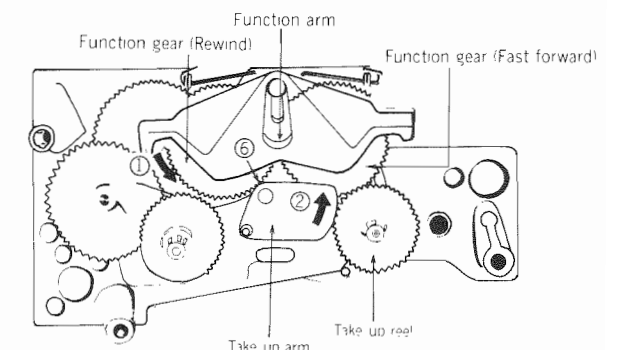
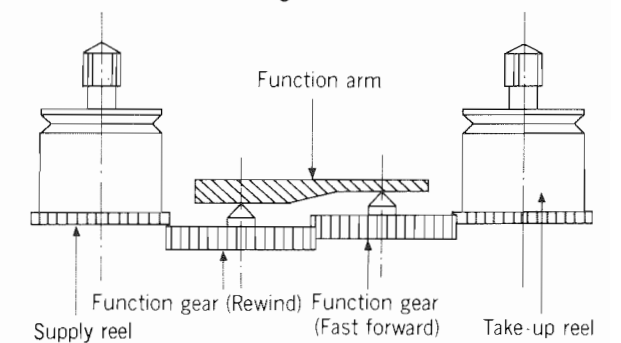
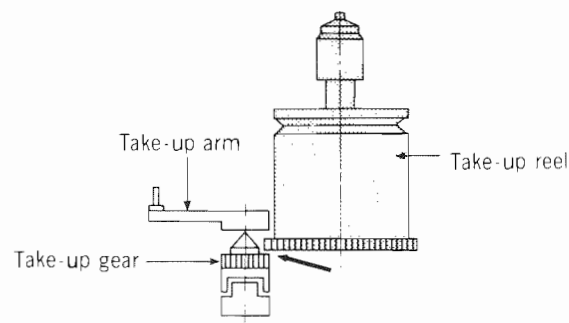
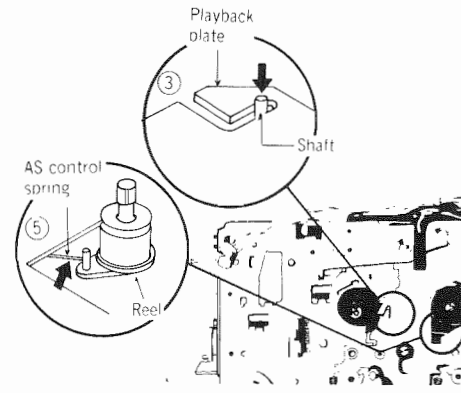

Figure 29
Figure 30
Figure 31
Figure 32
- ① Turn the F arm (shown in Figure 29) in the direction of the arrow ① until it touches the point shown by arrow ⑥ on the Take-up arm. The Reel, the Function gears and Function arm go into the mode shown in Figure 30.
- ② Turn the Take-up Arm (shown in Figure 29) in the direction of the arrow ② until the Take-up Gear and Reel underneath separate from each other as shown in the Figure 31.
- ③ Lift out the Take-up Arm operating shaft (shown in Figure 31) from the hole on the Playback Plate as shown in Figure 32, and secure the Gear Assembly with screws.
- ④ Place the Counter Belt onto the Reel (take-up side).
⑤ Press the STOP button to get it into the Stop mode, and check that the Auto-Stop control spring (shown in Figure 32) presses the Floating Cam under the Reel in the direction of the take-up side as shown in the Figure 32.